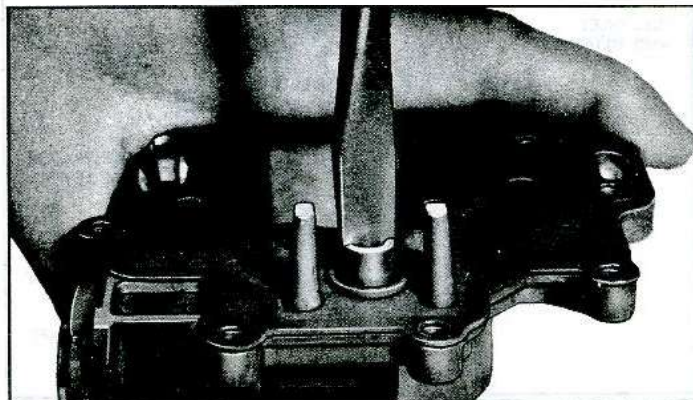

Fig. 5—Removing Needle Seat
8. If necessary, needle seat and gasket may be removed by using a large size screw driver (fig. 5). It may then be cleaned or replaced as needed.